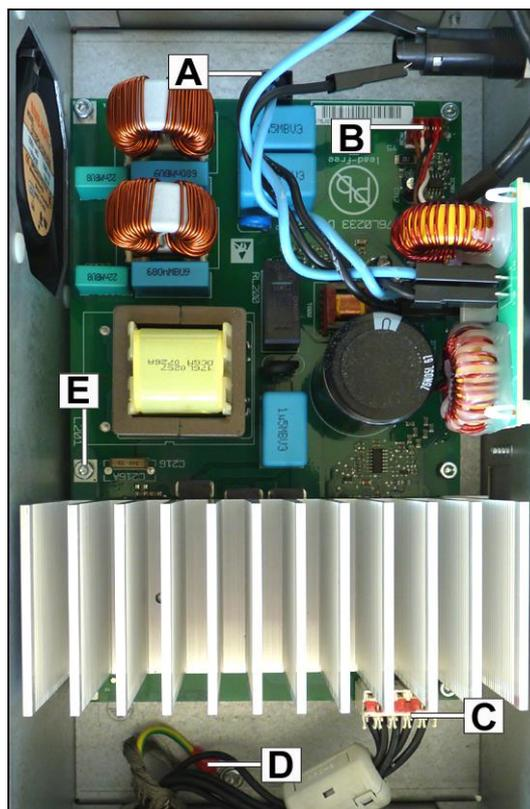

Fig. 3.6
3. Disconnect **A**, **B** and **C** connectors from the inverter and **D** earth wire. Remove **E** locking screws from the inverter and remove it from inside the box (Fig. 3.6).